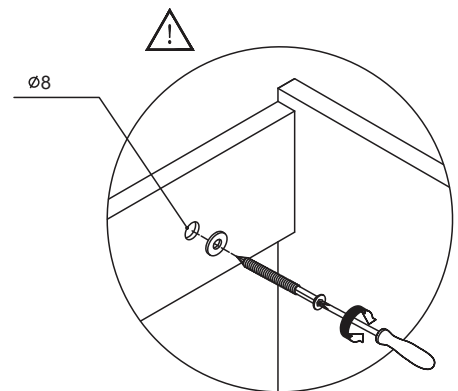

Fig.7
11. Apply a washer to the screw before tighten it. Make sure the washbasin cabinet has been fixed firmly on the wall. See Fig. 7